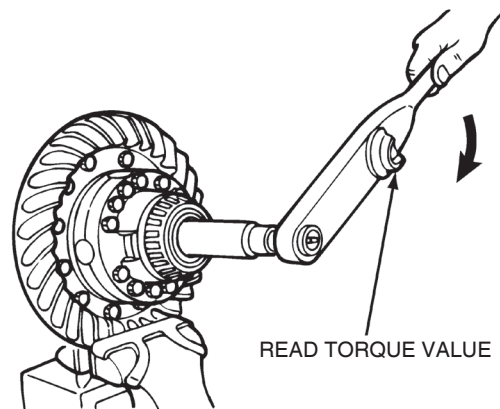

Figure 5.29
4. Place a torque wrench onto the nut of the tool and rotate the differential gears. As the differential gears rotate, read the value indicated on the torque wrench. Figure 5.29..